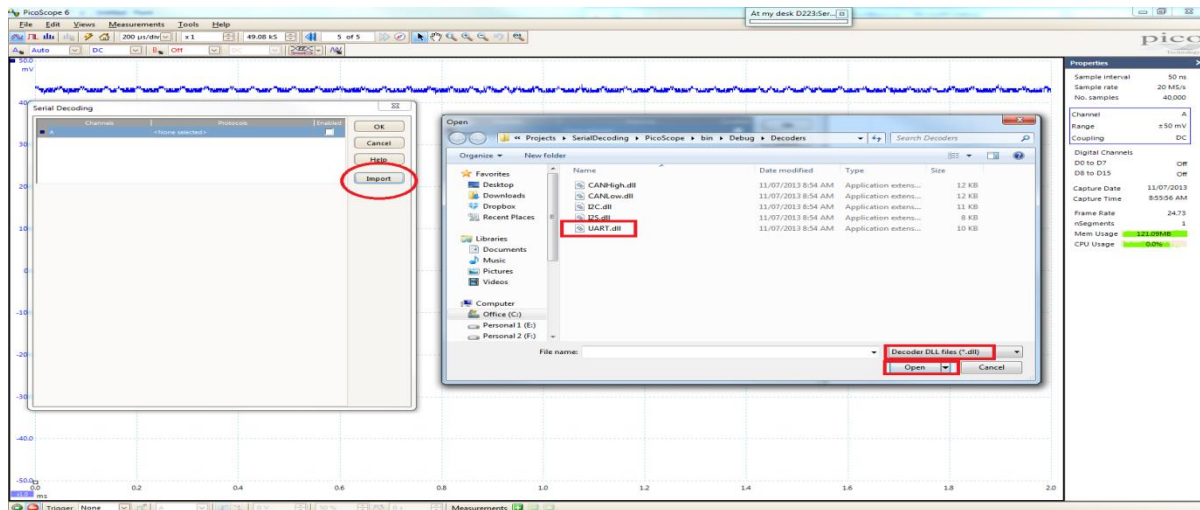

Fig 1
- o Or Use "Import" button in SerialDecoding Setup dialog and locate the dll as in Fig 1.